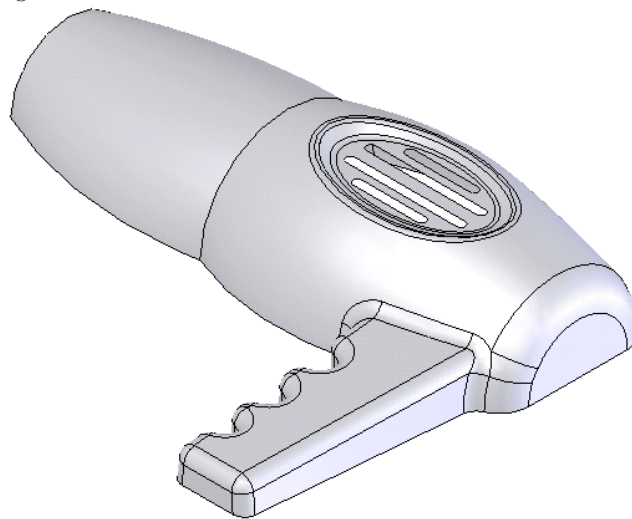

Figure 15-140 Surface model after adding fillets
5. Add all the required fillets to the surface model. The model after adding the fillets is displayed in Figure 15-140.